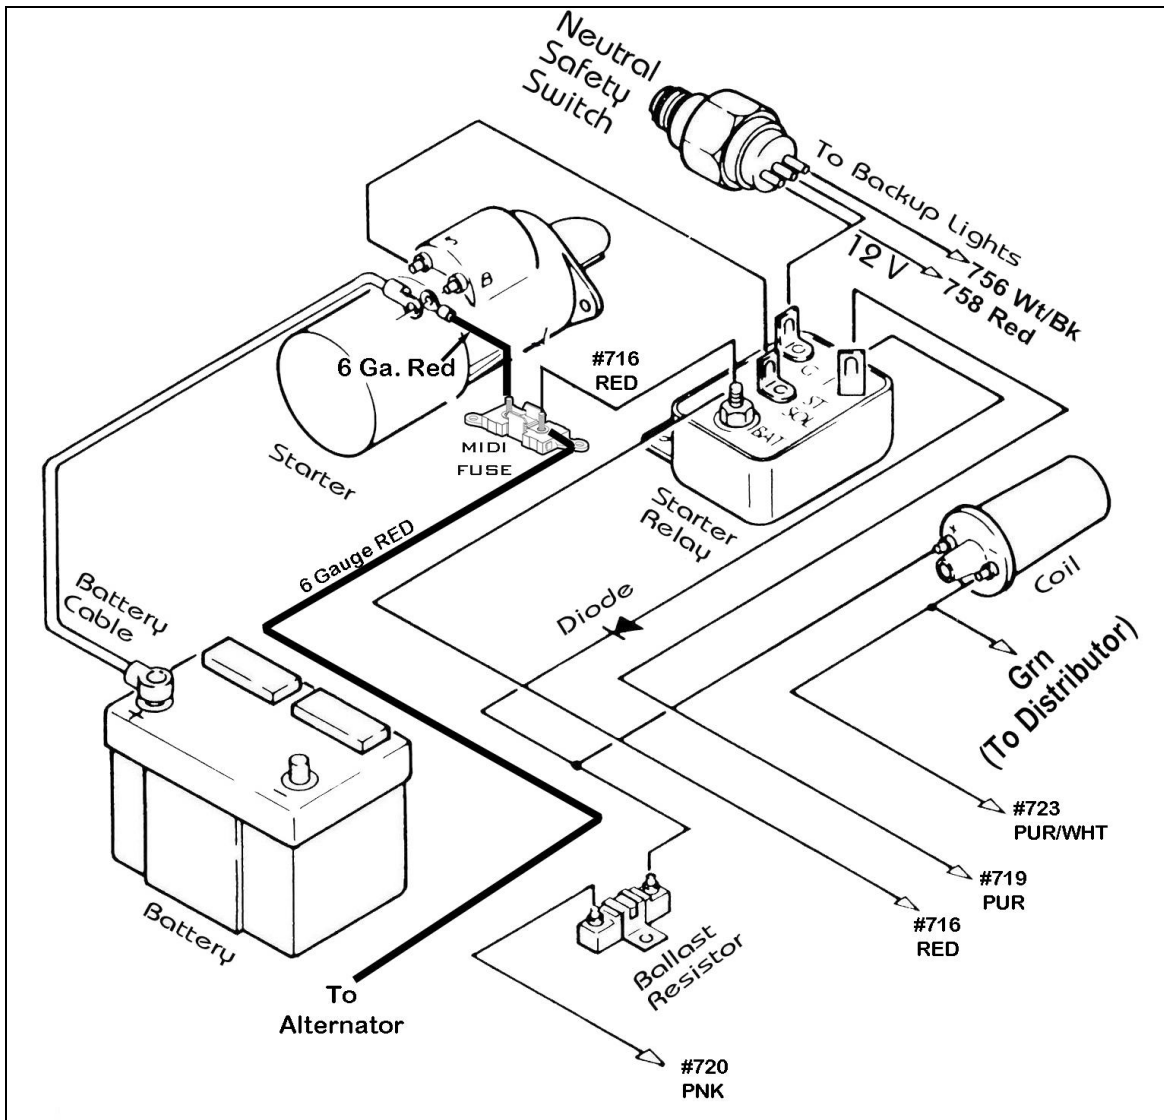

Figure 11.2 Mopar Ignition (Start/Run) System
11.2 Mopar Ignition (Start/Run) System. See Figure 11.2.
11.2.2 Connect a 14-gauge wire from the Starter Relay Ground (G) terminal to the center terminal of the transmission mounted Neutral Safety Switch. Older Mopar neutral safety switches have only one terminal. On newer switches, the two outside terminals are for backup lights. Use existing wiring to connect these two terminals as shown in **Figure 11.2**.
- 11.2.5** Connect a 14-gauge wire from the Starter Relay Ignition (I) terminal to the ignition coil side of the Ballast Resistor. This wire serves as a Ballast Resistor BYPASS during engine starting. You must add a diode (8-amp min., 100 PIV) to this wire as shown in **Figure 11.2**. If you are not using a Ballast Resistor, do not connect this wire.